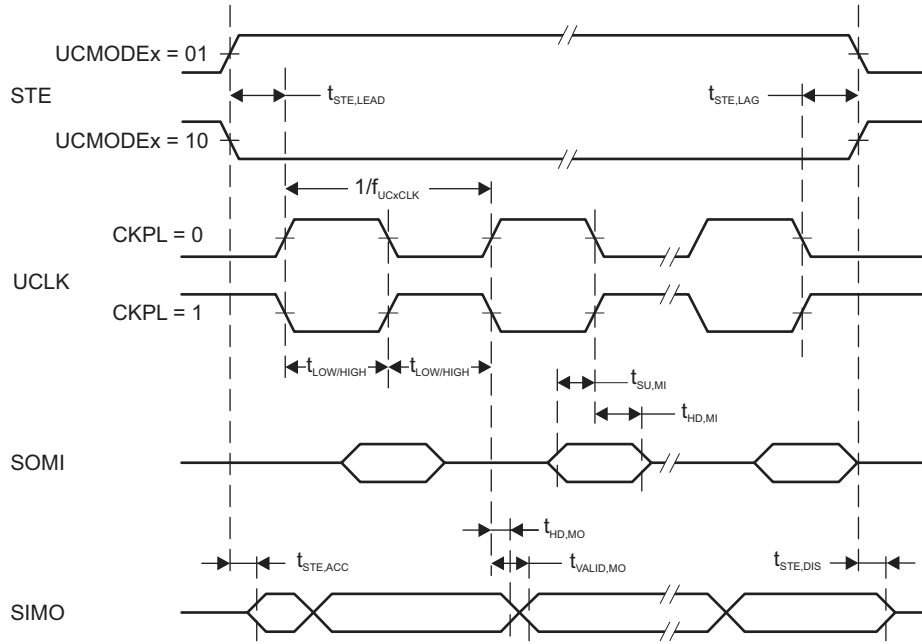
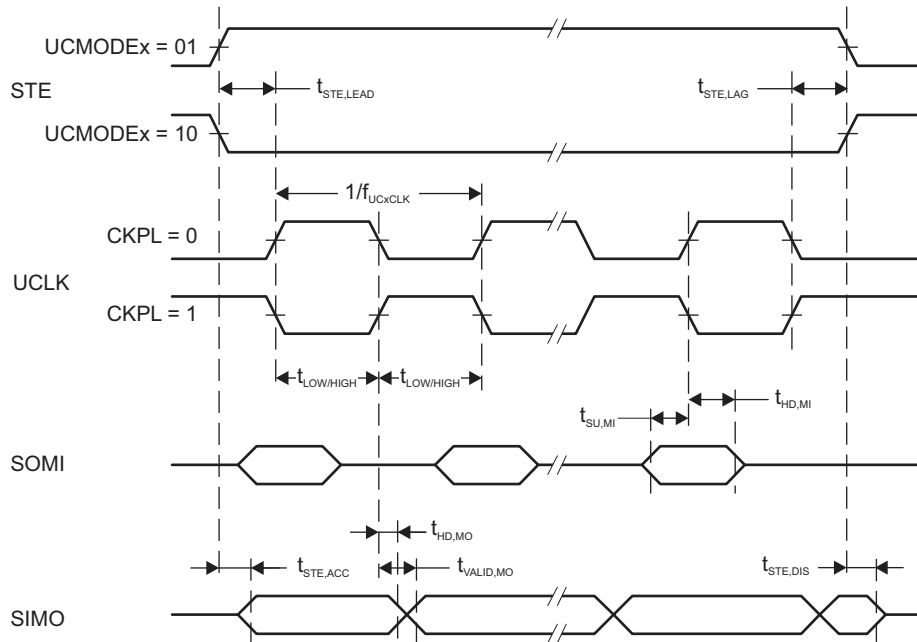

Figure 8-10. SPI Master Mode, CKPH = 0
Figure 8-11. SPI Master Mode, CKPH = 1
- (2) Specifies the time to drive the next valid data to the SIMO output after the output changing UCLK clock edge. Refer to the timing diagrams in Figure 8-10 and Figure 8-11.
- (3) Specifies how long data on the SIMO output is valid after the output changing UCLK clock edge. Negative values indicate that the data on the SIMO output can become invalid before the output changing clock edge observed on UCLK. Refer to the timing diagrams in Figure 8-10 and Figure 8-11.